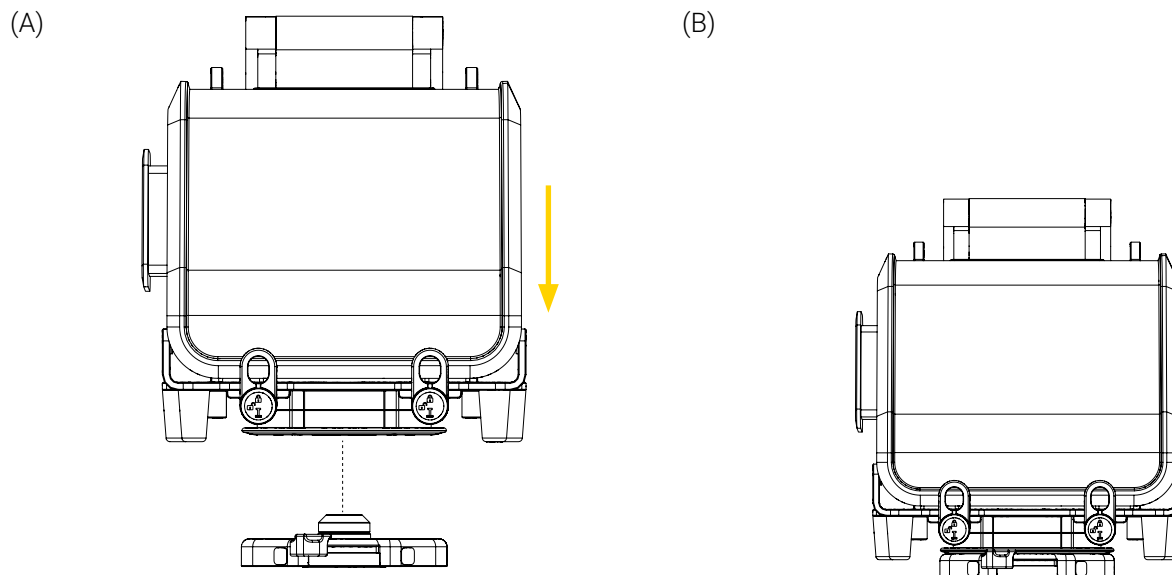

Figure 6: Installing the medical device
3. Align and place the mounting bracket on the Universal Mounting Base (Figure 6), ensuring to insert the locking disk of the base in the standard bottom disc of the mounting bracket.